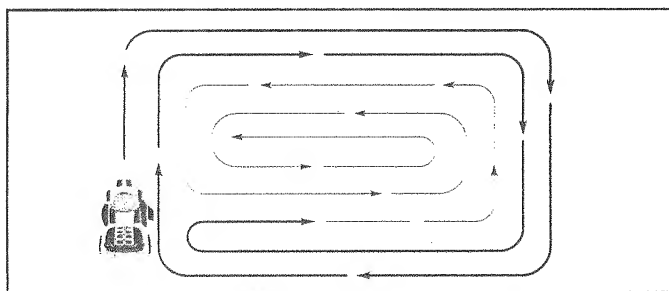

FIG. 10
- When mowing large areas, start by turning to the right so that clippings will discharge away from shrubs, fences, driveways, etc. After one or two rounds, mow in the opposite direction making left hand turns until finished (See Fig. 10).